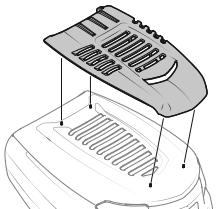

Figure 9
- Snap the hood topper into place using the hood as your guide. See Figure 9.